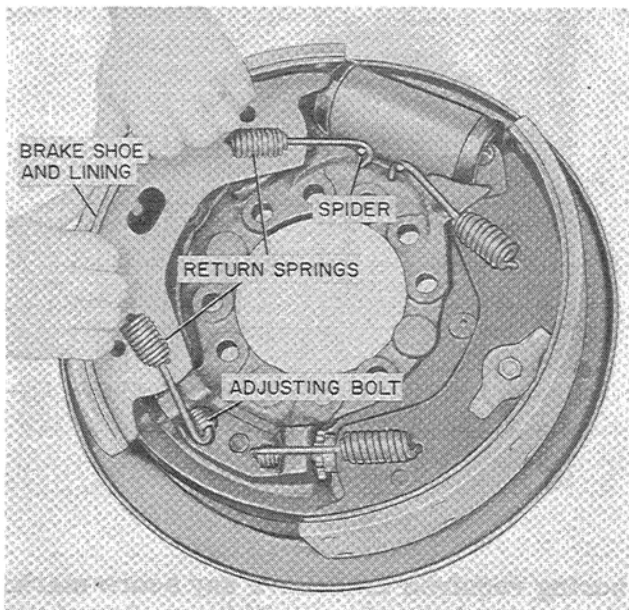

Figure W-35
5. Hook the long end of the upper spring on the spider and the long end of the lower spring in the adjusting bolt end. Refer to Figure W-35.